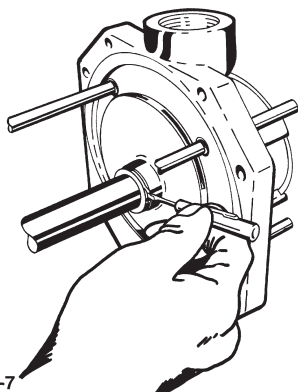

Figure 4-7
- a. Remove the Snap Ring (#14A) at the impeller hub. A small pocket screwdriver will aid in removal. Refer to Figure 4-7.
- a. Remove the snap ring (#14A) at the impeller hub. A small pocket screwdriver will aid in removal. Refer to Figure 4-7.